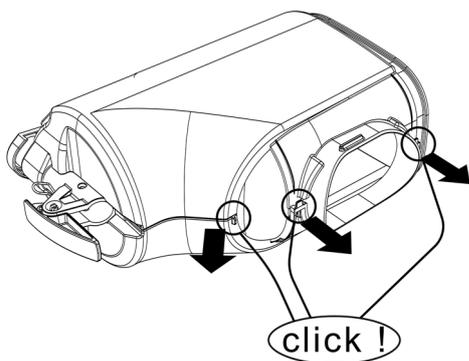

figure 16
**1** Click open the two parts. (see figure 16).